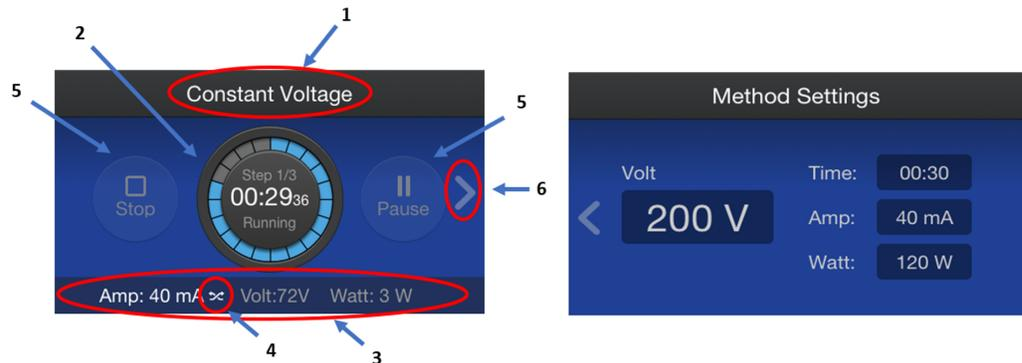

Figure 12 Run screen and Methods Settings screen
7. Touch **Start run** to begin the run. When the run begins, the **Run** screen will display (See Figure 12).
Once the run has started, the **Run** screen will display real time parameter values. To view run parameters as they were set, touch the **right** arrow to view the **Method Settings** screen (see Figure 12).
The name of the method will be displayed at the top of the screen. If the method is an un-named custom method, the name displayed will be the method type (Constant Voltage, Constant Current, or Constant Power). The method displayed in Figure 12 is a custom constant voltage method.
As an example: If the method uses constant voltage of 200 V, but the power supply reaches 500 mA (the power supply maximum) before 200 V is reached, the power supply will automatically switch to a constant current of 500 mA with the voltage floating. If at some point conditions of the run change (resistance increases and current drops) such that 200 V can be delivered with less than the power supply maximum current (500 mA), the power supply will automatically revert back to the set method constant parameter (200 V in this case) and the crossover icon will no longer be displayed. Figure 12 shows a run with crossover to mA and current limited to 40 mA. For additional details, see Appendix A, “Troubleshooting”.
Touch this arrow to display the **Method Settings** screen (Figure 12). This screen shows parameter settings for the step currently being run. From this screen, touch the **left** arrow to return to the **Run** screen.
The **Method Settings** screen (see Figure 12) displays voltage, current, power, and run time for the method. Time is shown in hours : minutes format. If the method has more than one step, there will be a separate method screen for each step. Use the **right** and **left** arrows to move between screens for individual steps.